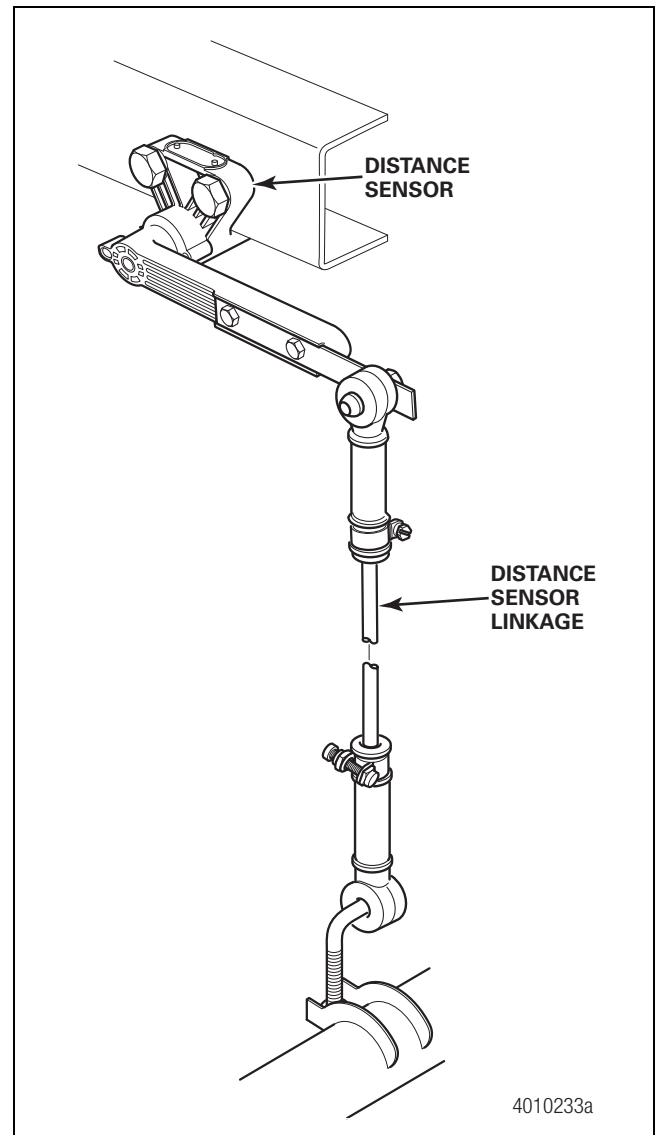

Figure 19
- B. The WABCO Distance Sensor must be attached to the trailer structure directly above the axle, close to the axle's center. Figure 19.
The Distance Sensor is mounted to the cross member above the axle. Figure 19. It must be mounted directly to the trailer structure. If needed, a steel bracket may be fabricated and then welded to the cross member, in order to bring the Distance Sensor to the appropriate mounting height. The distance sensor should be mounted close to the center of the trailer.